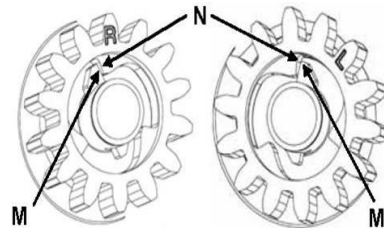

figure 19. Rear wheel pinions and pawls
Note: The pinion gear (H) is marked "R" on one side and "L" on the other. The pinion gear (H) is to be fitted with the "R" displayed when fitted on the right hand drive side of the mower and with the "L" displayed when fitted on the left hand drive side. Refer to figure 19. The right and left side of the mower is indicated while standing in the operator position.
Note: The pawl must always be orientated so that the side with the large flat face (M) will come in contact with the flat faces inside the pinion gear (N) The orientation is important to ensure that the pawl will drive the pinion gear when the clutch is engaged). Refer to figure 19.
- ★ Replace the wheel and retain using the tension washer and the nyloc nut (K). Tension the nut just enough to remove the side to side movement of the wheel.
- ★ Replace the wheel caps (A) and re-attach the spark plug lead and lower the wheels to the ground.